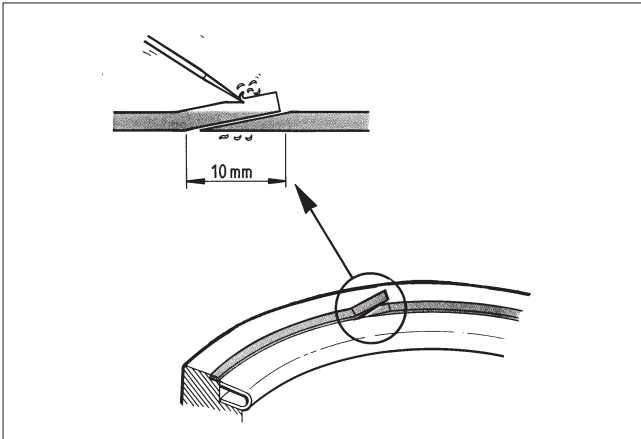

Fig. 13 Mounting the body seal
- Remove the clamp ring (2) by untightening the screws (27).
- Remove the old body seal (19) and the seat ring (4). Change the seat ring if it is damaged.
- Mount a new, self-adhesive body seal (19) into the body. The surface must be clean and free of grease. Handle the ends of the seal according to Fig. 13.
- Centre the seat ring (4) carefully into its groove and turn the disc to maintain light contact with the seat.